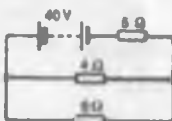

Figure 13.13
- 3 Use Kirchhoff's laws to find the current flowing in the 6Ω resistor of Fig. 13.13 and the power dissipated in the 4Ω resistor.